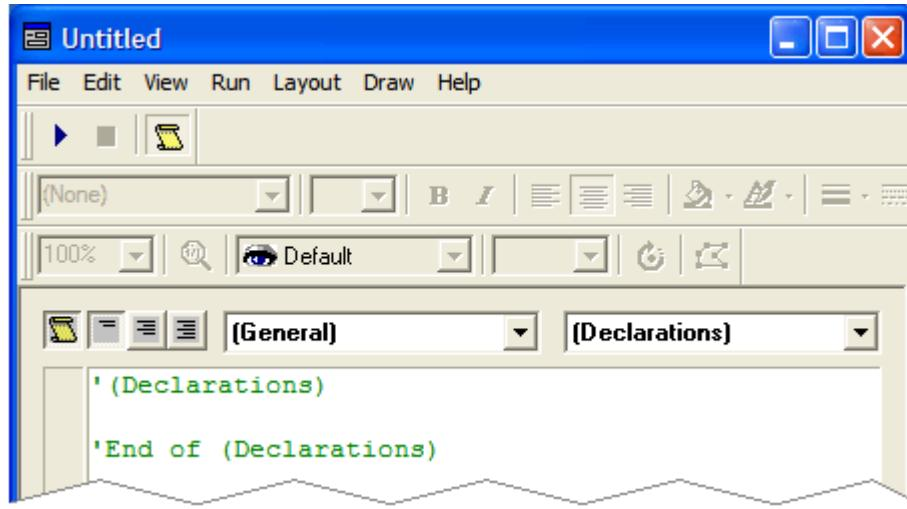

Figure 4-20. The comments associated with the (General) section.
- 8) Select the **(General)** item. Observe the *(Declarations)* and *End of (Declarations)* comments that appear in the main editing window as illustrated in Figure 4-20. These are the same comments you saw when you were creating your pure text script earlier in this chapter (you may want to refer back to Figure 4-2 for a moment).